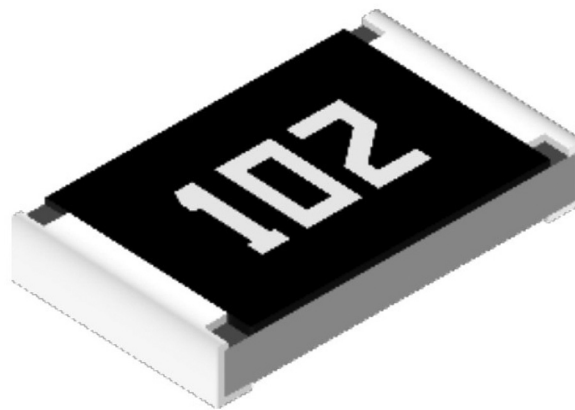

Figure 1: 102 SMD Resistor
b. The SMD resistor shown in Figure 1 has the numbers 102 micro-printed on it.